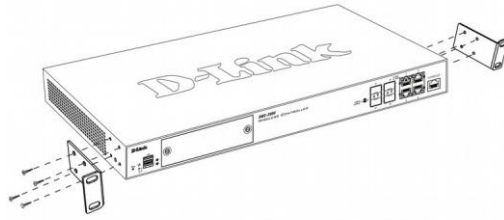

Figure 5. Mounting Brackets
1. Attach the mounting brackets to each side of the chassis as shown in Figure 5 and secure them with the screws provided.